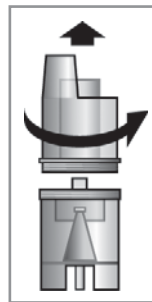

Fig.1
- Remove the top of the nebulizer by turning it counterclockwise (Fig.1).